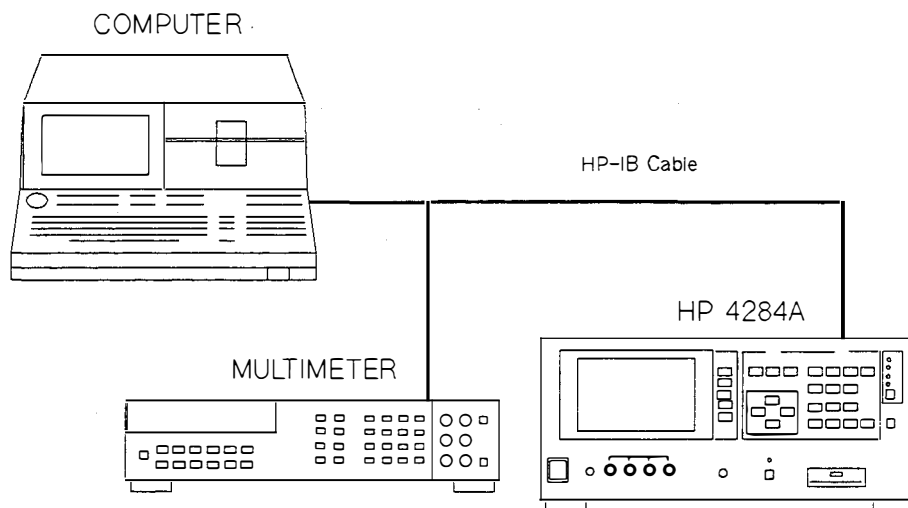

Figure 2-2. Adjustment Program Setup
4. Connect the HP 4284A, HP 3458A and the Computer using the HP-IB Cables. The computer's interface select code must be set to 7. Figure 2-2 shows the setup.